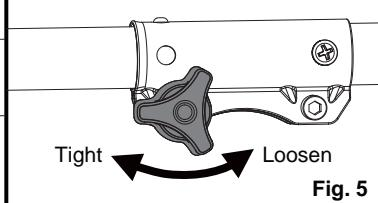

Fig. 5
- Secure the shaft by turning the knob clockwise (Fig. 5).